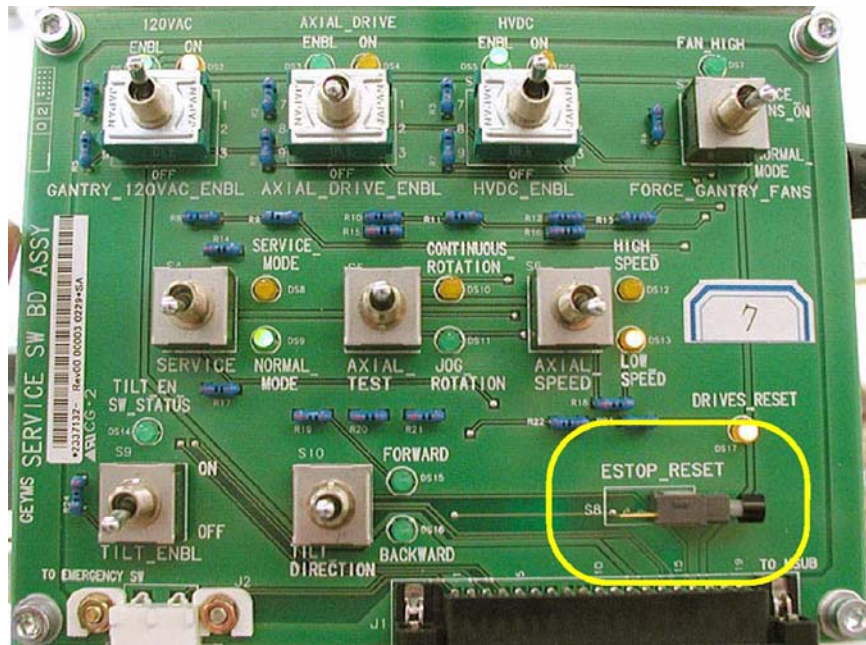

Figure 4-21 Service Switch Panel
- 5.) Push the Service Switch Panel reset button. (See Figure 4-21)